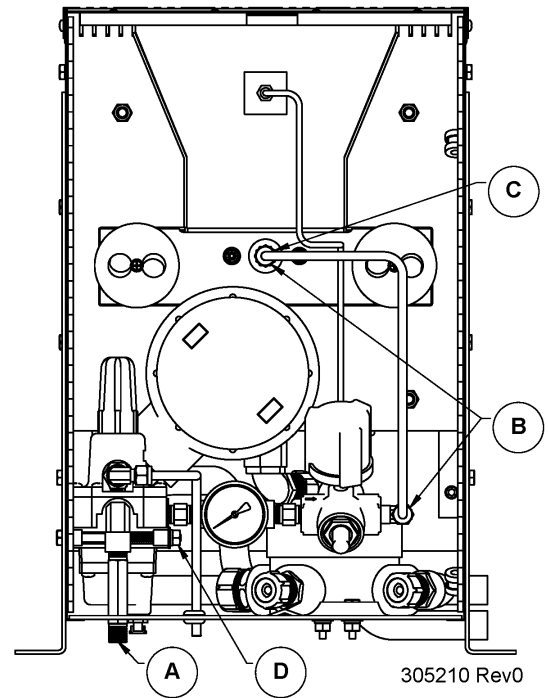
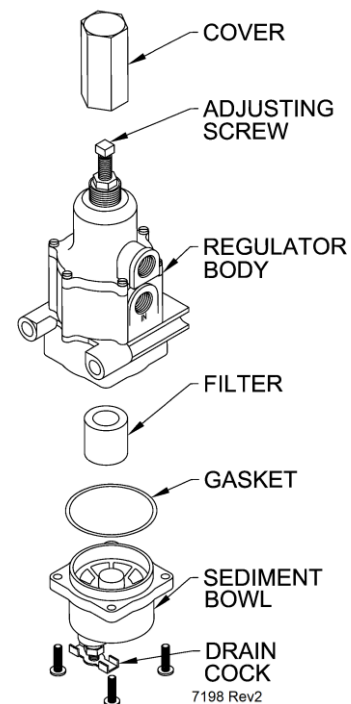

Figure 21 Removing Fuel System
Figure 22 Fuel Regulator
3.9.1 Changing the Fuel Filter and Orifice (Figure 21, Figure 22)
- 5) Remove the four socket cap screws from the bottom of the regulator. Remove the bottom, complete with the rubber gasket (see Figure 22).